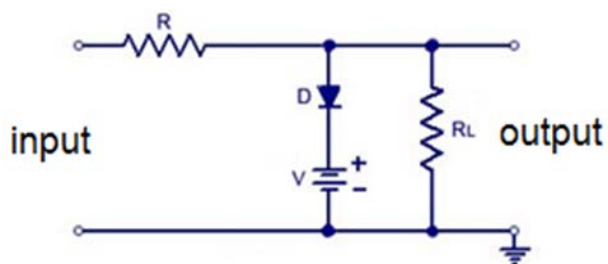
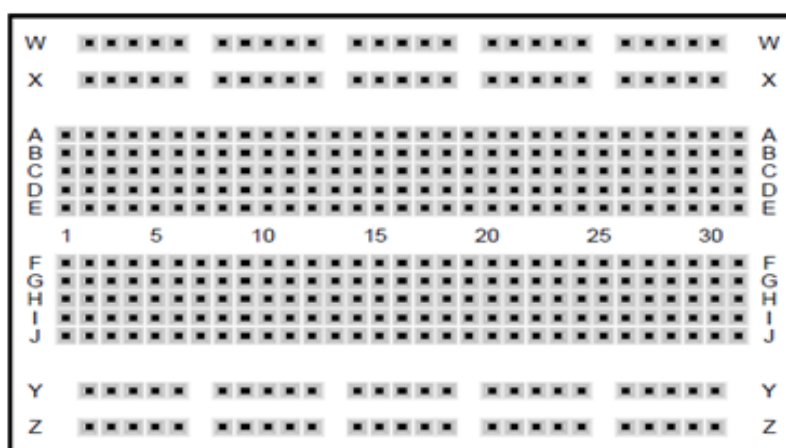

FIGURE 4.7.10
FIGURE 4.7.11
- 4.7.4 Construct the parallel biased clipper circuit in FIGURE 4.7.10 below on the breadboard in FIGURE 4.7.11 below. Draw the component layout on the figure.